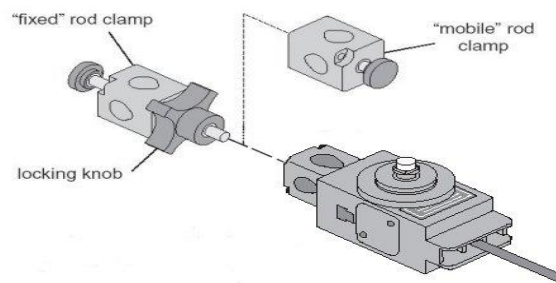

Figure 2: Attaching the Rod Clamp
1. Remove the thumb screw from the clamp on the Rotary Motion Sensor. See Figure 2.